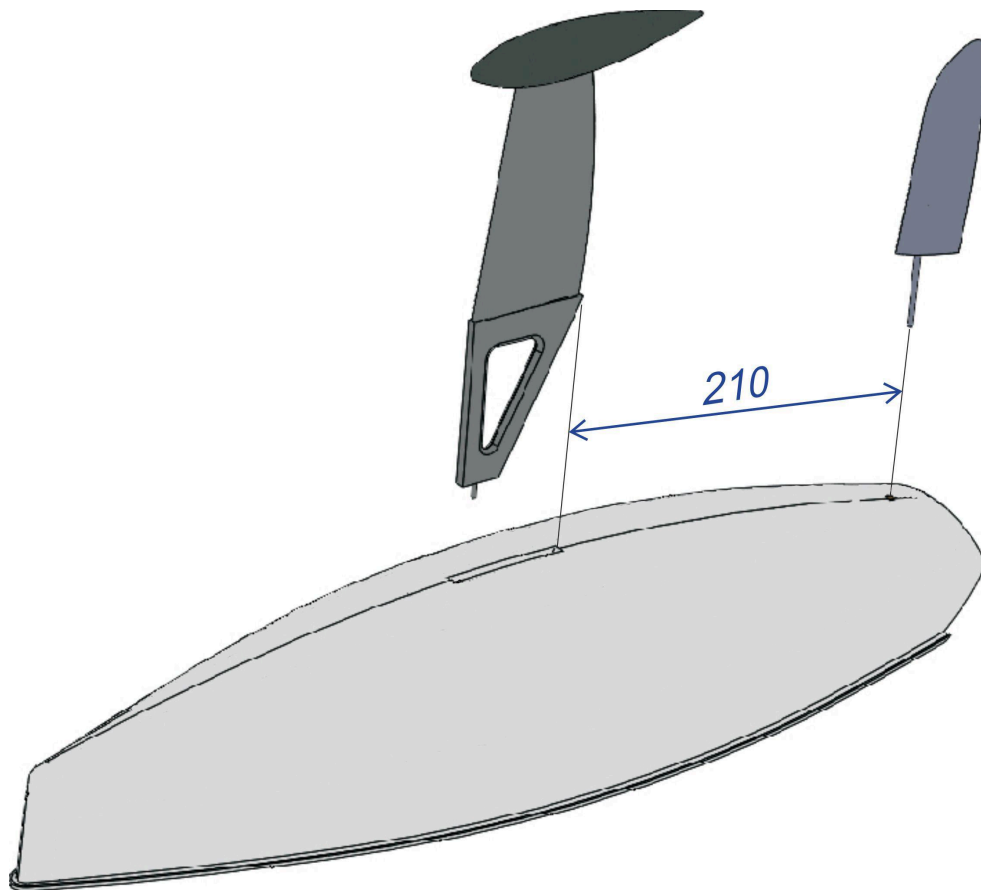

Figure 1: Position of Rudder Post on 2014.v2 Hulls
- In some 2014.V2 hulls there is either no marking or hole or an incorrect marking for the position of the rudder. The axis of the rudder should be 210 mm from the inner back-side of the keel box, measured alongside the bottom of the boat. See figure 1.